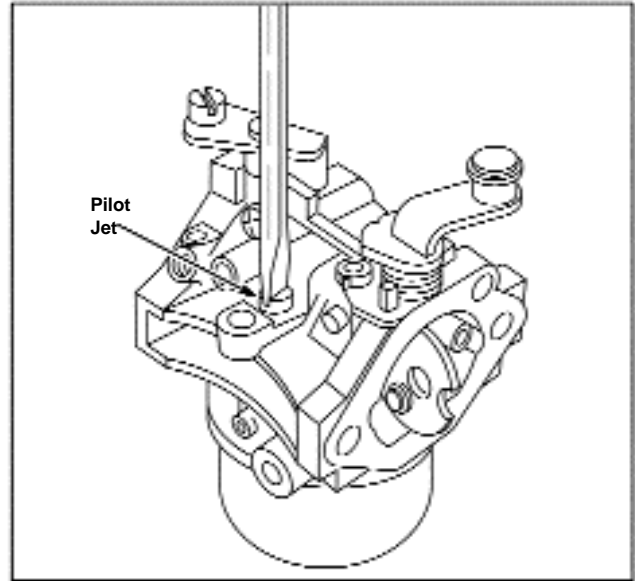

**Figure 25 - Installing Choke Spring**
3. Place short bushing on bottom of choke shaft and install in carburetor making sure that choke shaft retainer stop is between carburetor body stop and detent spring, Figure 25. This positions shaft to install choke valve.